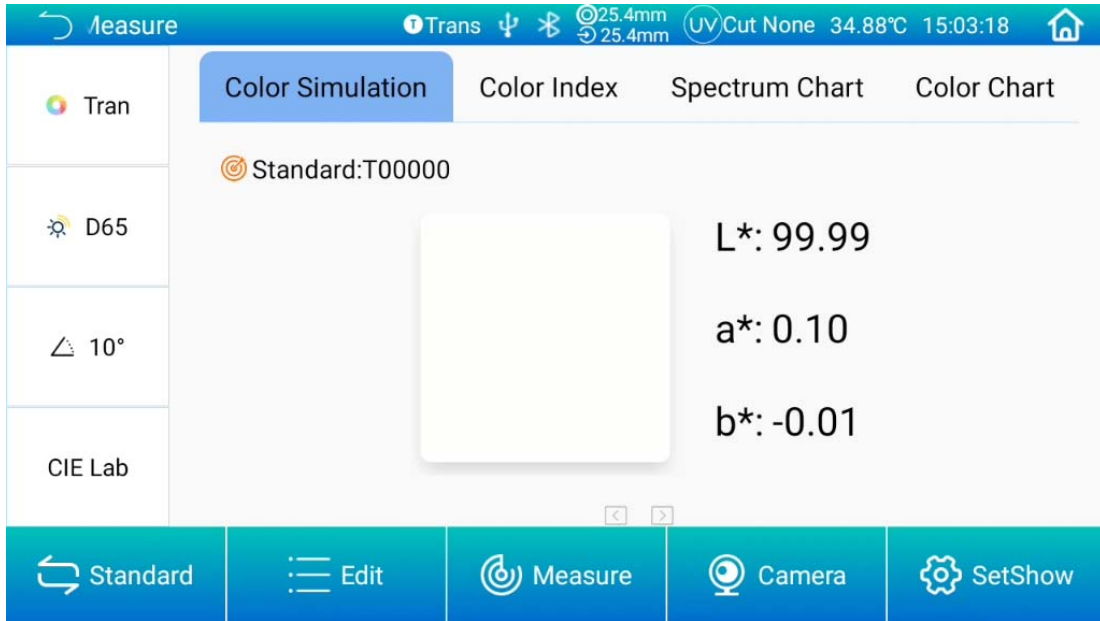

Figure 8 Transmission measurement interface
1. Enter into main menu as shown in Figure 8, click "Calibration" to enter transmissive black calibration. Place the transmission black plate into transmission sample bin and stick it to the side of integrating sphere tightly, put white board in reflective aperture and click the "Black Calibration" to start calibration.